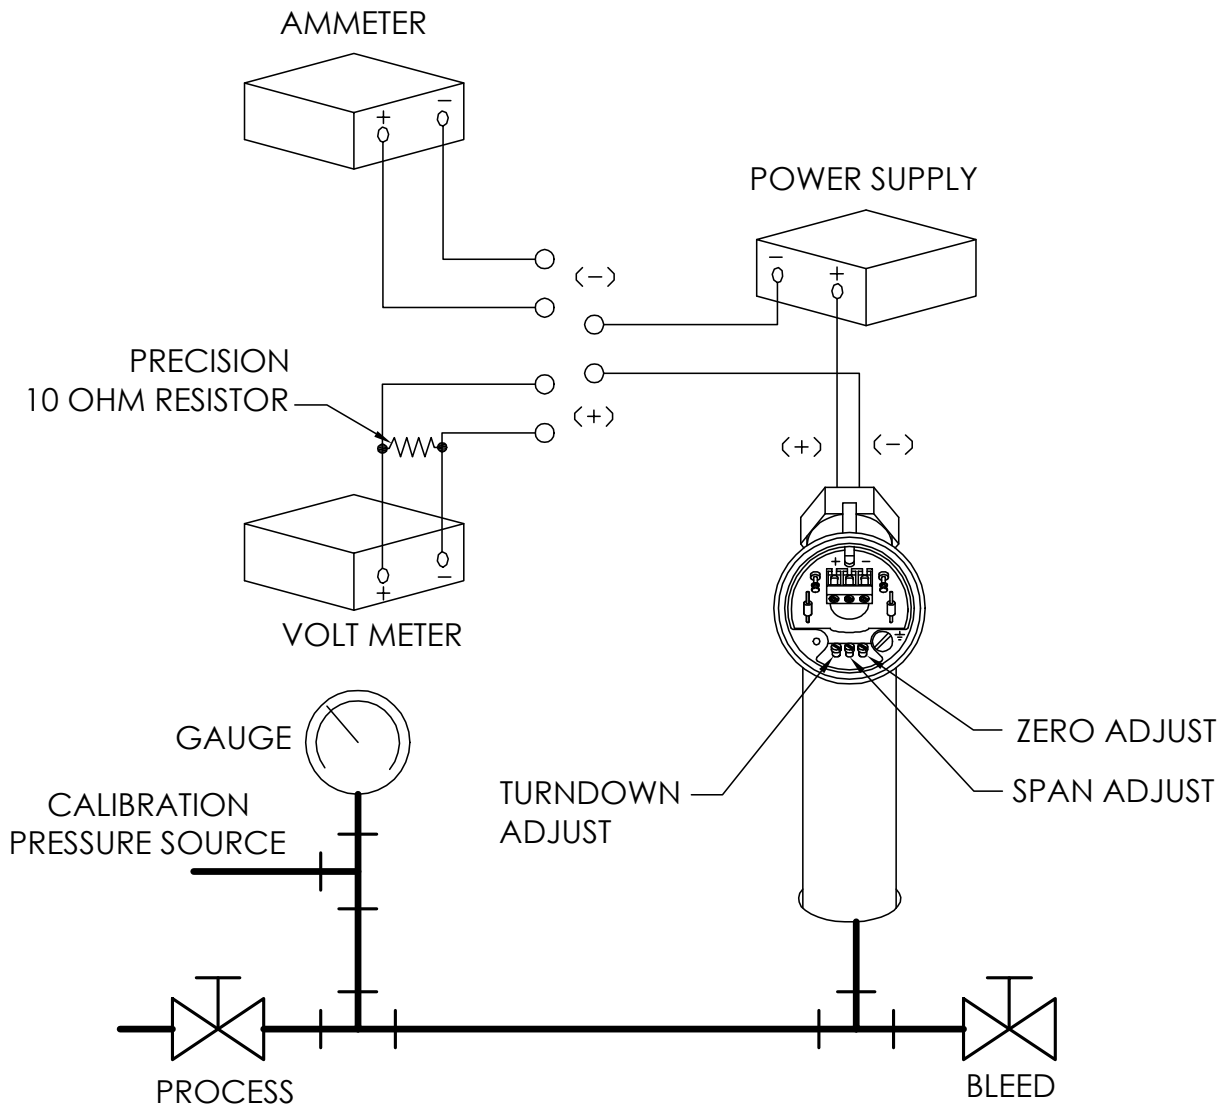

FIGURE 4-3
Figure 4-3 shows an in-system piping diagram (includes a tee for calibration). The bleeder valve should block the process.
The Model 88 Transmitter can be calibrated using an ammeter or voltmeter (Figure 4-3).
Use a voltmeter with a 10 ohm precision resistor connected as shown in figure 4-3.
Calibration procedure setup in Figure 4-3.
*Using 10 ohm resistor as shown in Figure 4-3